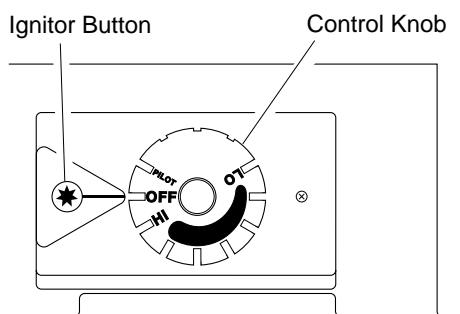

Figure 28 - Control Knob In The OFF Position
4. Wait five (5) minutes to clear out any gas. Then smell for gas, including near the floor. If you smell gas, STOP! Follow "B" in the safety information, column 1. If you don't smell gas, go to the next step.
5. Turn control knob counterclockwise to the PILOT position. Press in control knob for five (5) seconds (see Figure 28).